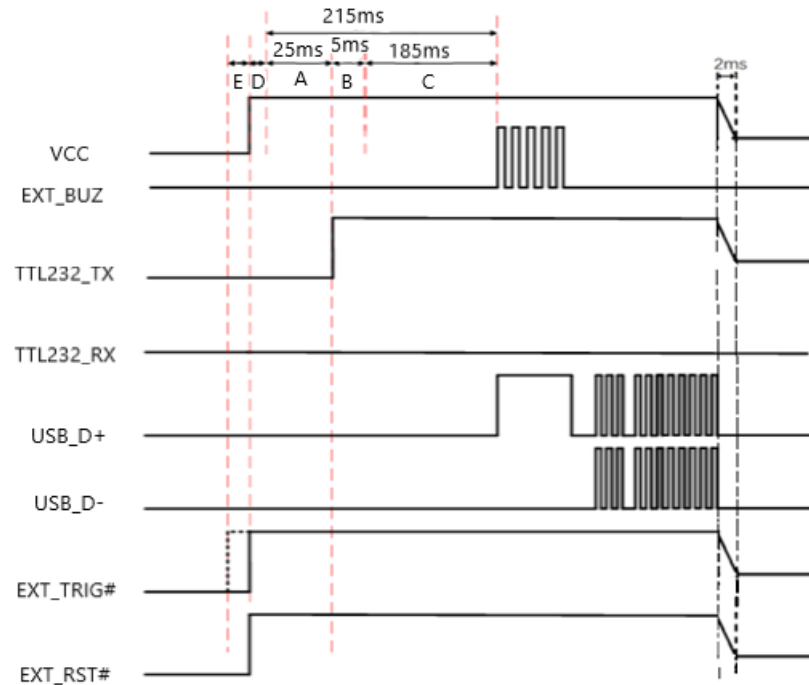

Figure 4-1
4. The N1 has a 100K pull-up on the EXT_TRIG# signal. During the period between power-on and bootloader execution, the user should not lower the EXT_TRIG# signal. If EXT_TRIG# signal is set high before power-on, it should meet the duration of E (E=0~1ms) as shown in Figure 4-1. Levels of other signals are kept low during power-on to prevent abnormal function.
When using the external IO port as a trigger output, note that high and low levels must meet the requirements provided in Table 4-4. It is recommended to use the default floating or default pull-up IO port as the trigger pin. If you can only use the default pull-down IO port as the trigger pin, refer to the power-on timing sequence in Figure 4-1. When not triggered, ensure that the pin meets the high level requirements in Table 4-4.